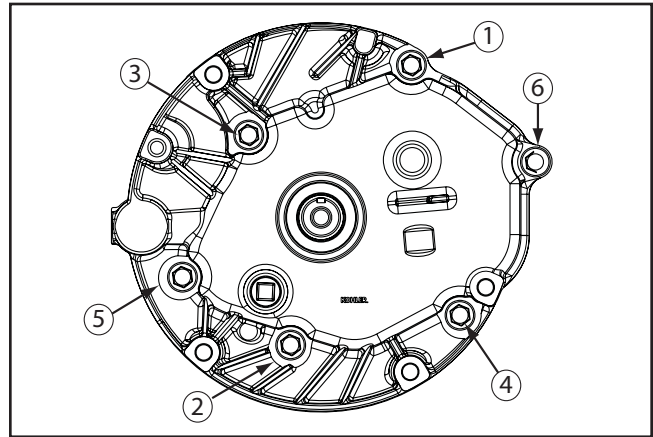

Figure 10-13. Torque Sequence.
6. Using the torque sequence shown in Figure 10-13.